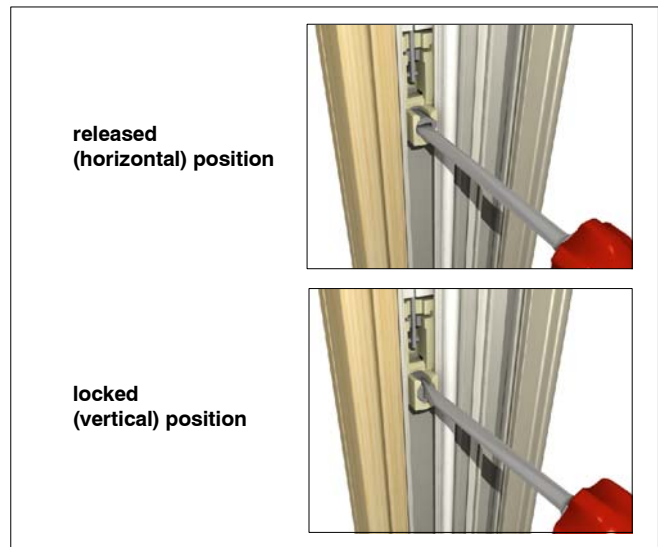

Figure 7
- Ensure that both left and right clutches are parallel and in the (vertical) locked position. See figure 7.